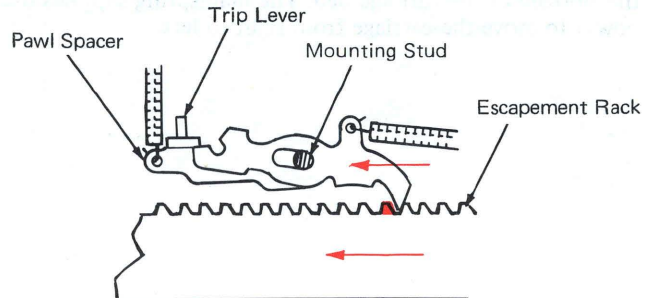

Figure 5 – Escapement Pawl Holding Rack (Top View)
4. As the carriage moves to the left under tension of the mainspring, the escapement pawl is pushed to the left by the rack tooth until the right edge of the elongated mounting hole contacts the mounting stud (Figure 5). The carriage is then stopped and held by the escapement pawl. Due to the weight of the carriage, the typebar will print before the carriage moves.